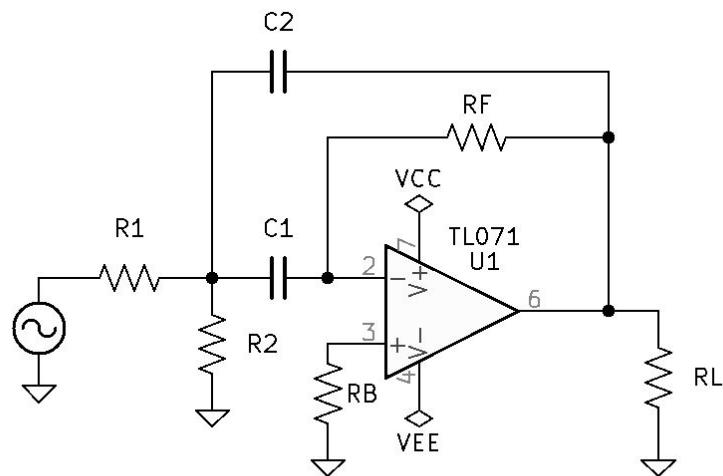

Figure 8.8: Single Stage Band-Pass Second-Order Active Filtering Circuit.
1. See Figure 8.8 *Single Stage Band-Pass Second-Order Active Filtering Circuit* on page 88.